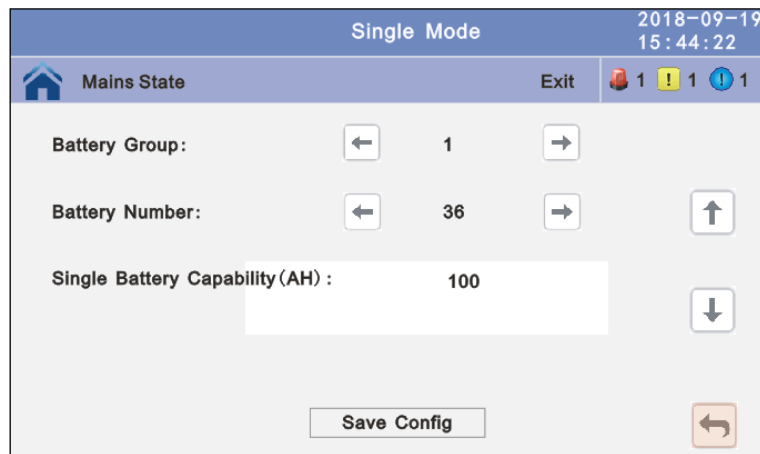
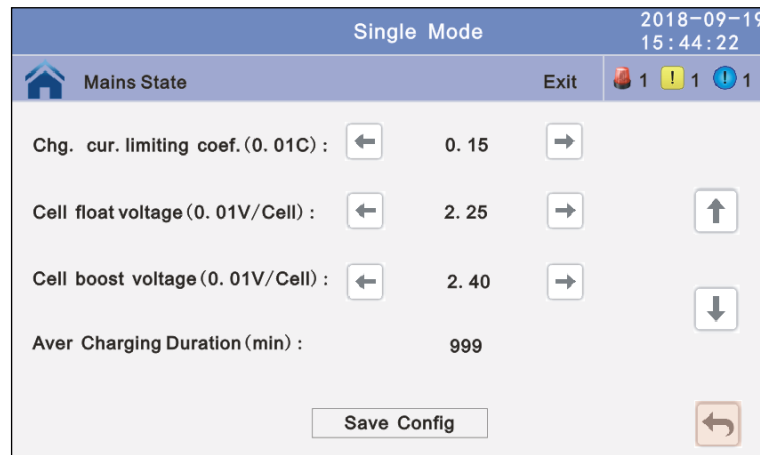
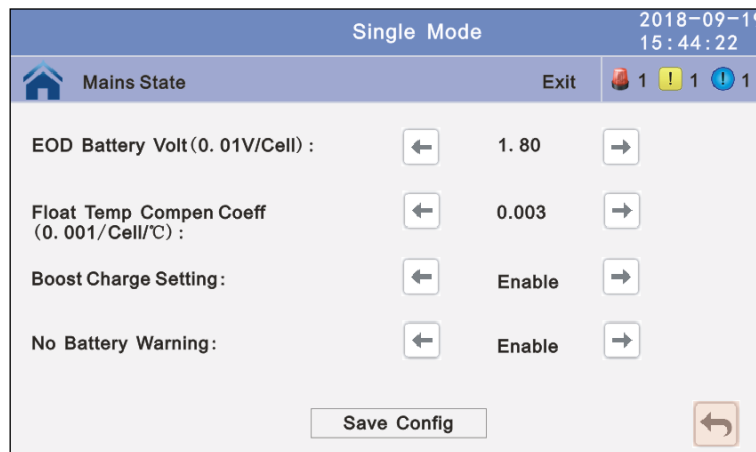

Fig. 4-33 Settings/Advanced Settings/Battery (1) submenu
Fig. 4-34 Settings/Advanced Settings/Battery (2) submenu
Fig. 4-35 Settings/Advanced Settings/Battery (3) submenu
- Battery setting submenu (Fig. 4-33, Fig. 4-34 and Fig. 4-35)